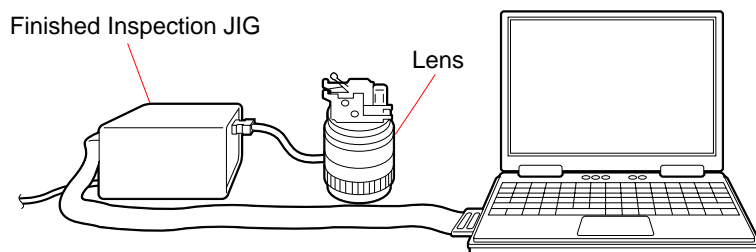

Fig.4-1-20
1. Connect equipment and checking lens as shown Fig.4-1-20.